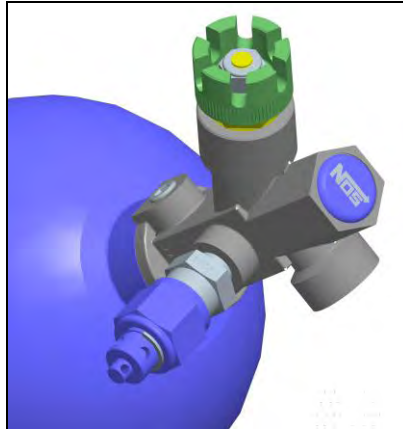

Figure 1
4. Slip the bottle gear over the square brass stem on top of the valve and reinstall the lock nut (Fig. 1). Tighten securely.